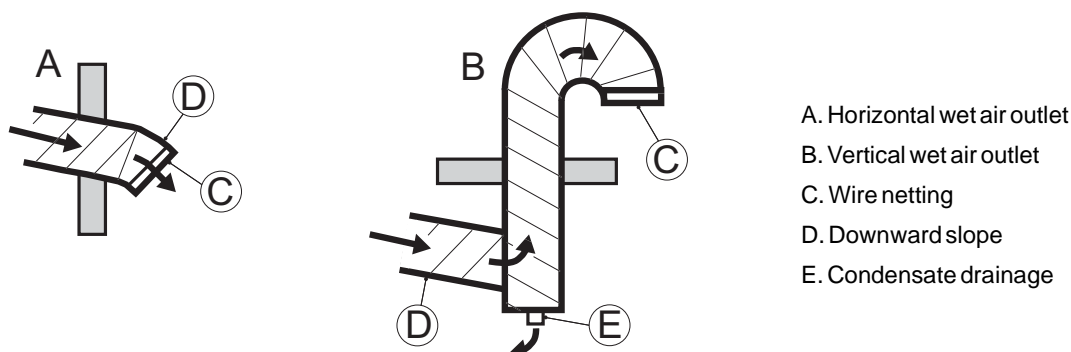

Figure 3.25 Wet air outlet design
- Horizontal wet air ducts must be installed with a slight decline (away from the dehumidifier) to drain away possible condensation. Suitable condensation drains should be installed at low points in the wet air outlet duct, see *Figure 3.25*.